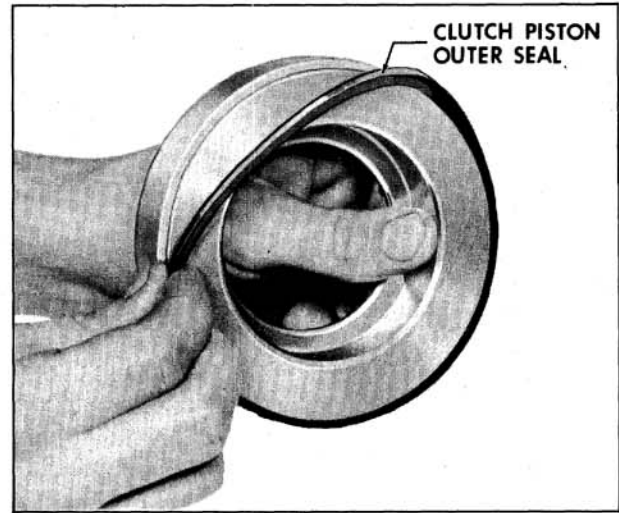

Fig. 6-444 Installing Outer Seal
4. Lubricate with transmission oil and install new forward clutch piston outer seal in clutch piston. Seal lip must point down. (Fig. 6-444)